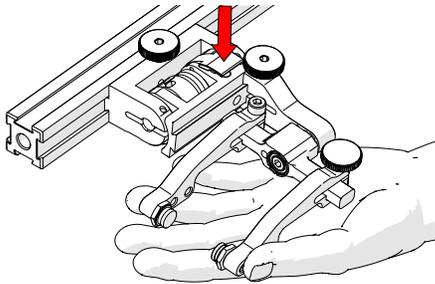

Fig. 159 - Lift slightly and press Latch
2. Lift probe holder slightly and press the latch button (Fig. 159) to release the probe holder the full 45° degrees.